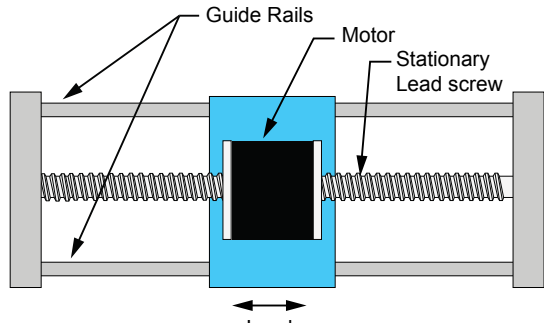

Figure 6
1. **Supported stationary lead screw:** The load is attached to the motor body. The internal nut moves the motor back and forth along the length of the lead screw. (Figure 6)